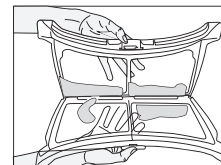

Fig7
- 3.Clean lint,fibre,and cotton raveling by hand or with a soft piece of cloth(Fig7,8)